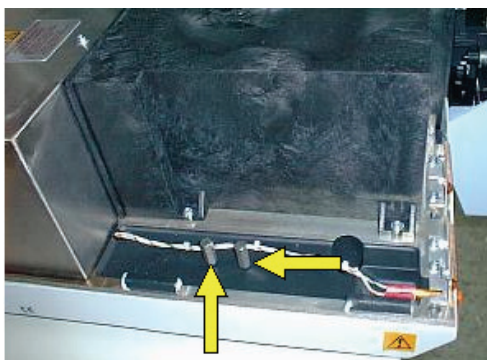

Figure 78 Shipping clamp screws storage positions
2. Locate the metal lamp housing (located rear-left), and remove the earth contact, as shown in Figure 78.
3. Undo the cover fixing screw, as shown in Figure 78.